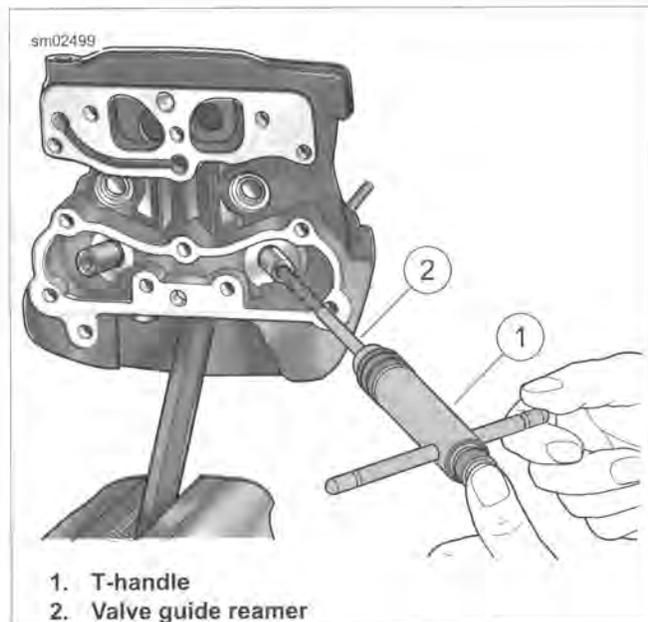

Figure 3-44. Reaming Valve Guide Bore
5. See Figure 3-44. Ream the guide.
- a. Install REAMER T-HANDLE (Part No. HD-39847) (1) on VALVE GUIDE REAMER (Part No. B-45523) (2).